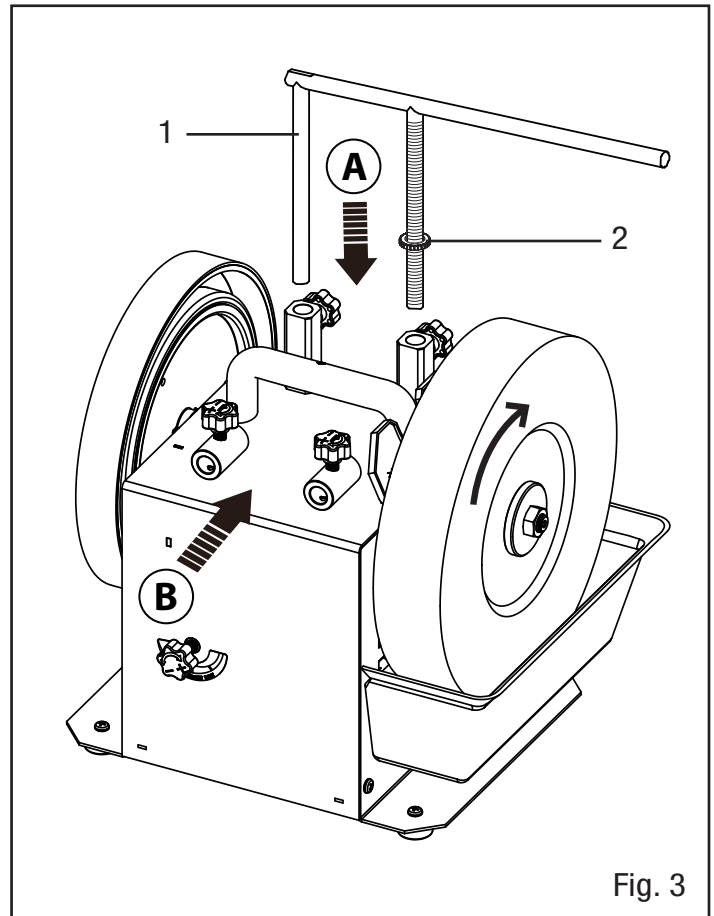

Fig. 3
The universal work support (Fig. 3 - 1) acts as both a work rest and as an attachment arm for various jigs. The work support can be installed either in the vertical (A) or horizontal (B) position. The diameter of the work support bar is 12 mm.
4. Use the fine adjustment ring (Fig. 3 - 2) on the threaded bar to make fine adjustments to the work support as necessary. Make sure the support arm is completely parallel and level with the face of the wheel, whether it be in the vertical or the horizontal position.